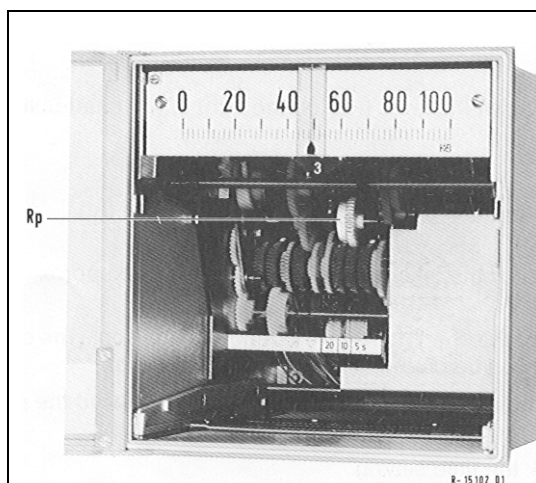

Fig. 5-4 Changing the dotting rate
- Switch off the power supply or select the highest dotting rate (20 s) (see Fig. 5-4).
(see Fig. 5-4)